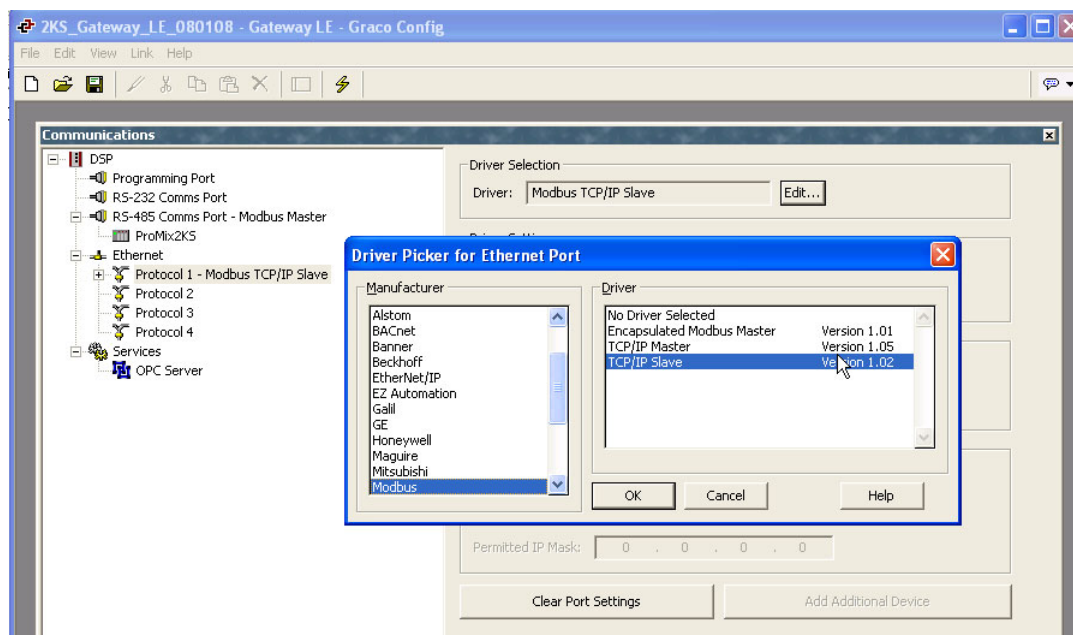

FIG. 19: Select Protocol
2. See FIG. 19. Highlight Protocol 1. Click the Edit button on the right side of the window to open the Driver Picker window. Choose a protocol from the